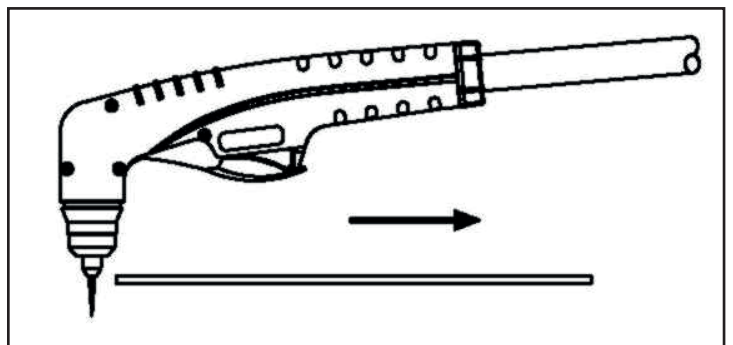

Figure 15
- Select the non-continuous pilot arc mode with the selection key (A) in the control panel.
- For edge starts, hold the torch perpendicular to the workpiece with the front of the tip on the edge of the workpiece at the point where the cut is to start - Fig. 15.